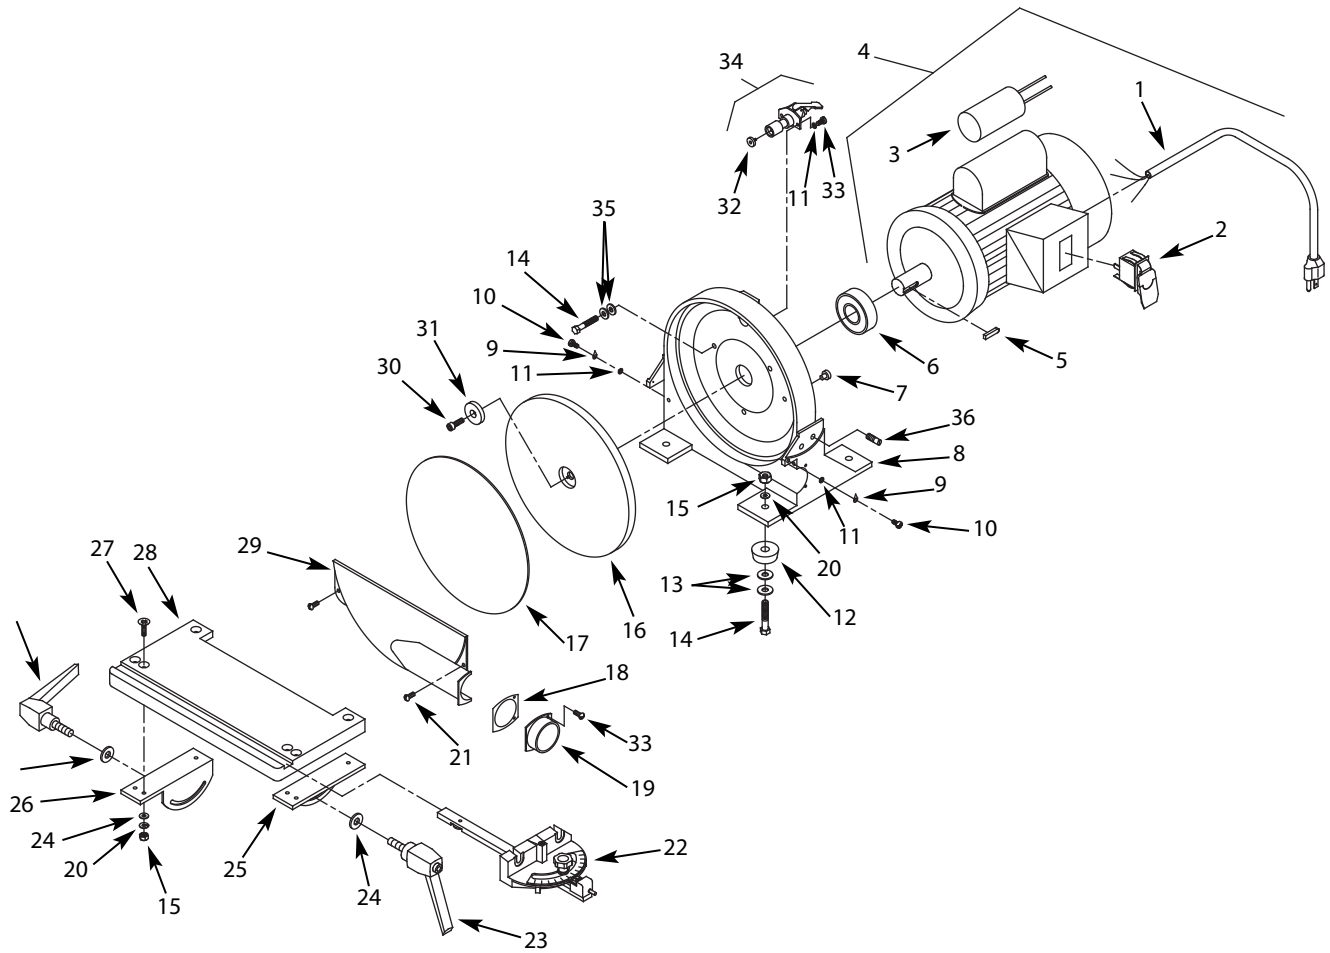

Figure 4 – Repair Parts Illustration for Sander
- To bolt sander to a workbench or tool stand, the feet, bolts, washers and nuts (Fig. 4, Ref. Nos. 12-15 and 20) must be removed.
Refer to Figure 4.